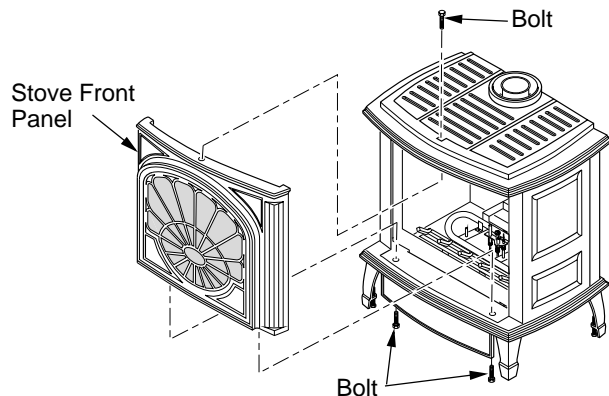

Figure 53 - Removing Front Panel from Stove
- Remove 2 bolts from bottom of stove (if still installed) and one from the top of stove to remove front panel (see Figure 53).